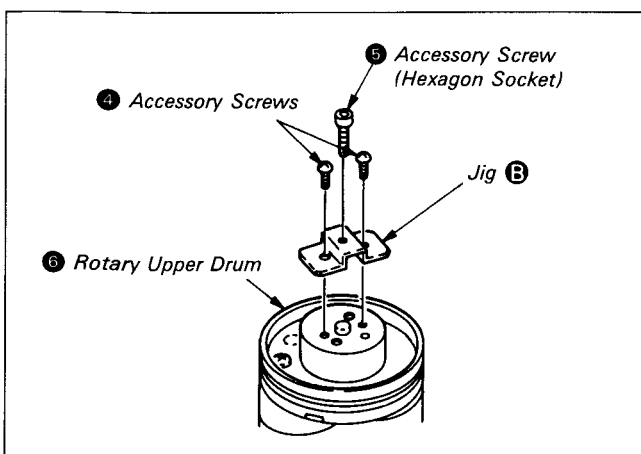

Fig. 7-46.
- 4) Mount the dismantling Jig B with the accessory screws ④ utilizing the screw holes in which the dynamic damper was mounted. Drive the hexagon socket screw ⑤ into the jig B and remove the rotary upper drum ⑥. (See Fig. 7-46.)